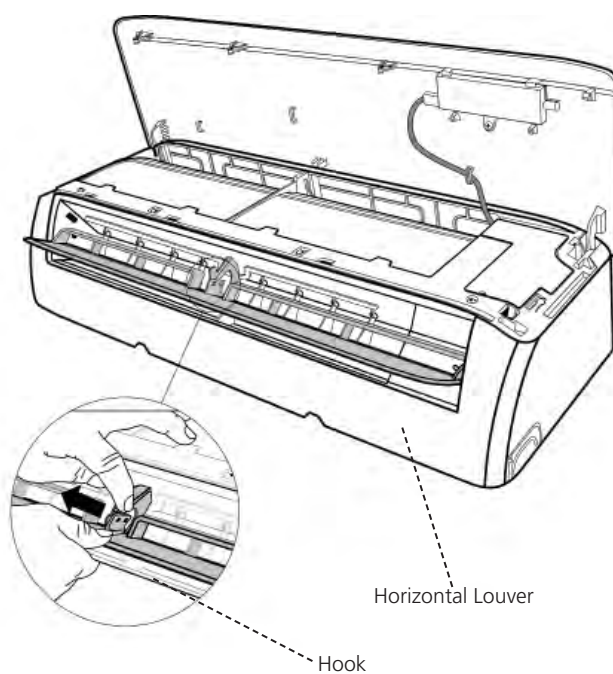

Fig. 3
- 3) Open the horizontal louver and push the hook towards left to open it (see Fig. 3).